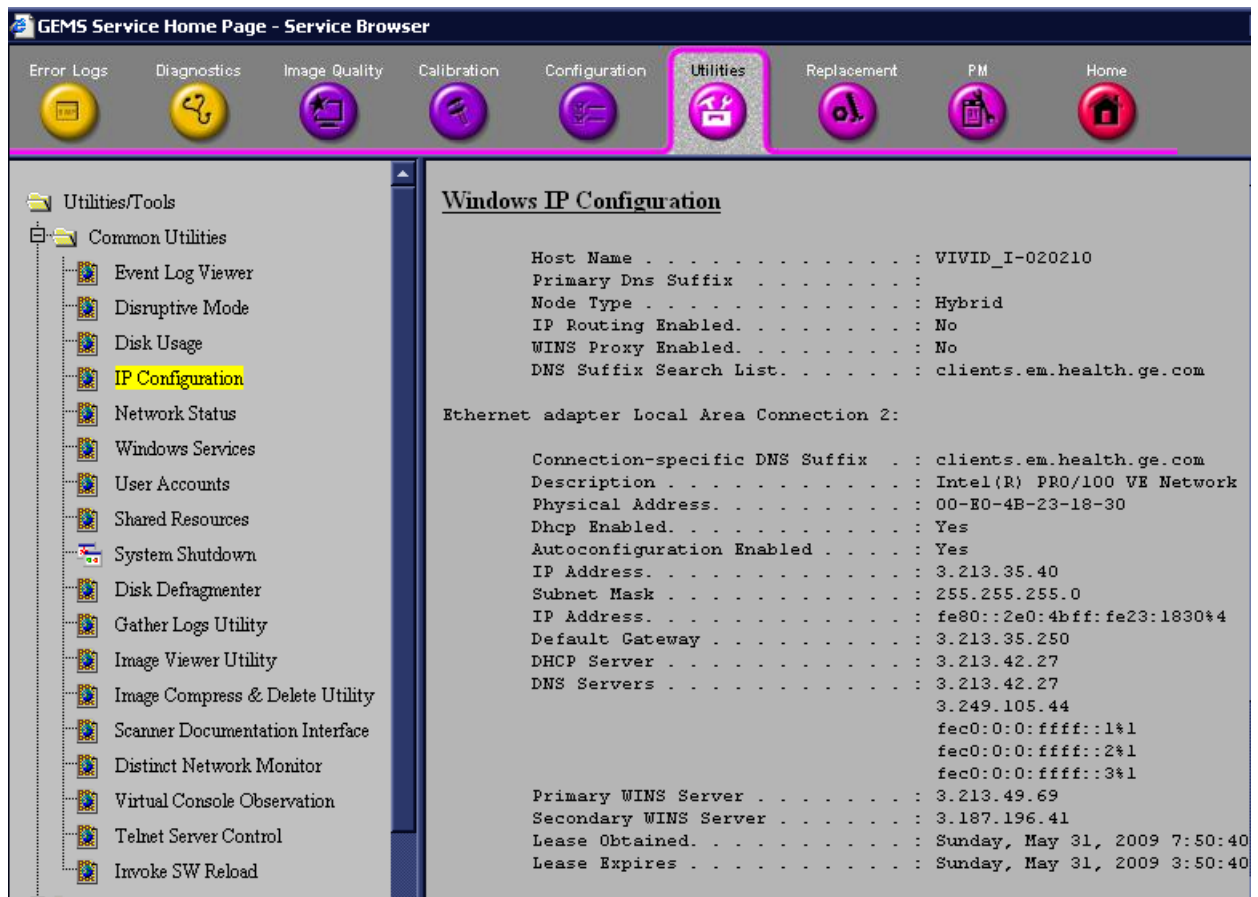

Figure 7-124 IP Configuration
- **IP Configuration** - displays IP information required by the FE or OLC - see Figure 7-124.